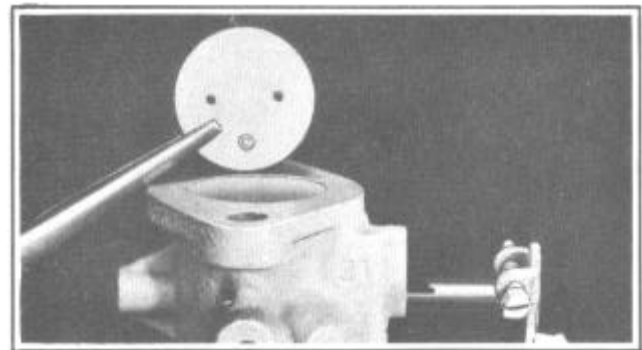

FIGURE 28
14. Remove throttle valve screws, valve and throttle shaft and lever assembly, Figure 28. Check shaft for wear or loose lever and throttle rod hole in lever for wear.